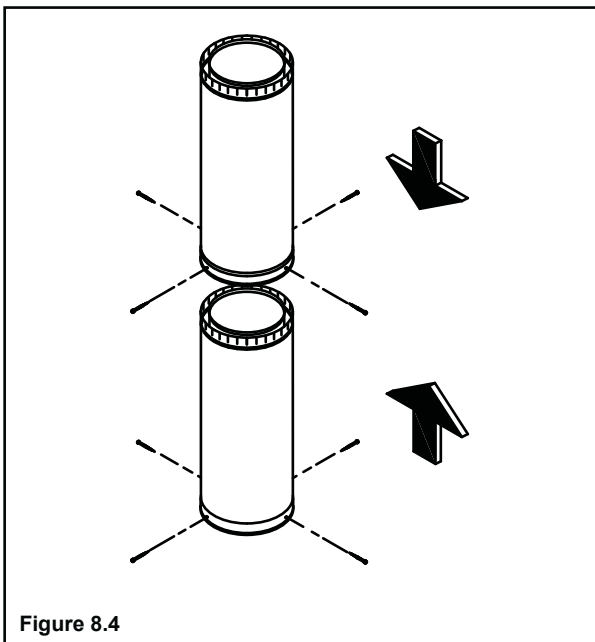

Figure 8.4
- For each additional chimney section use four of the sheet metal screws provided to make a secure connection between the chimney sections (Figure 8.4). Do not penetrate the inner liner of the chimney.